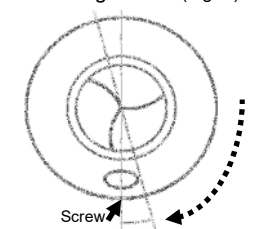

Fig. 8
14. Position front cover over IPX cover in same orientation as it was removed. Lightly press front cover onto fan and rotate clockwise up to stop. Refit fixing screw. (Fig. 8)